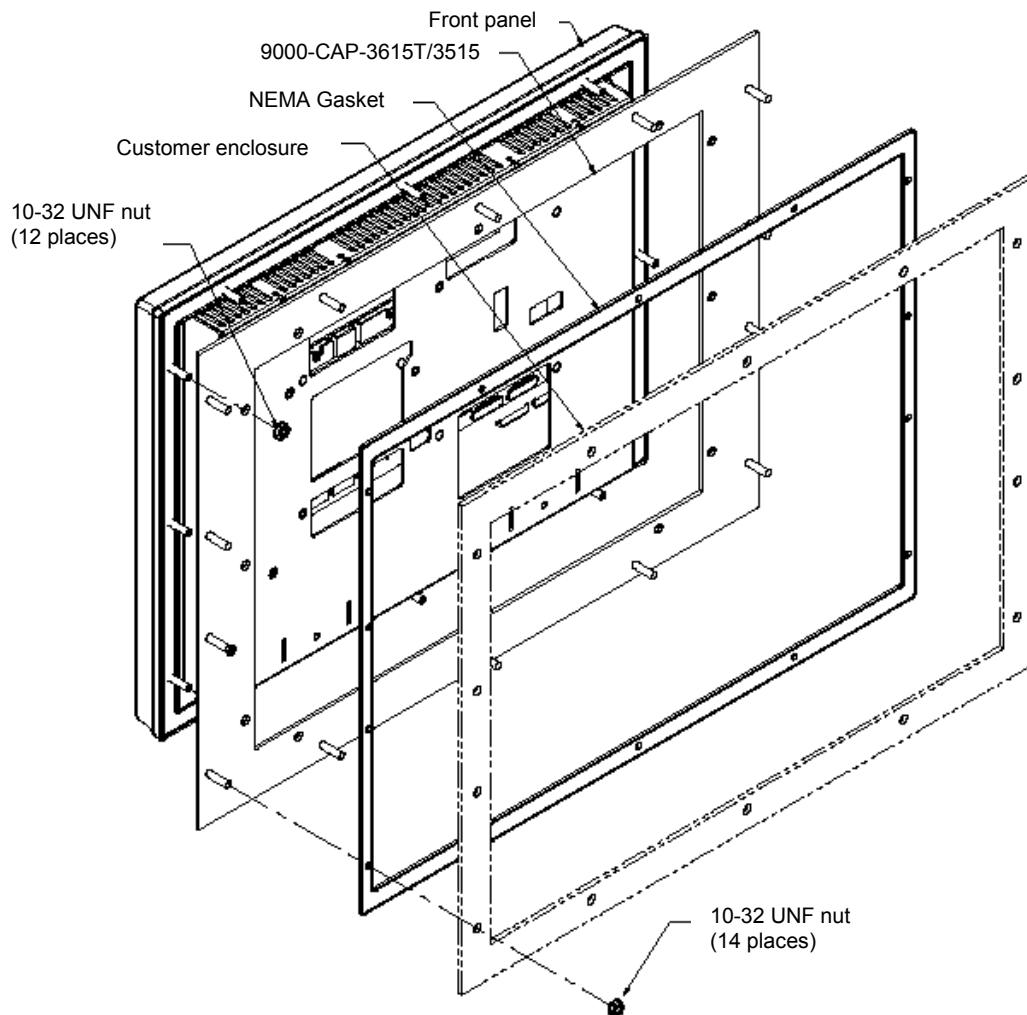

Figure 1. 9000-CAP-3615T/3515 Cutout Adapter Plate Installation
2. Mount the front panel of the replacement unit to the cutout adapter plate as shown in Figure 1. Torque 10-32 UNF nuts to 25 lbs-inch (12 nuts total).
3. Mount the combined 9000-CAP-3615T/3515 and front panel assembly to the existing cutout as shown in Figure 1. Torque 10-32 UNF nuts to 25 lbs-inch (14 nuts total).